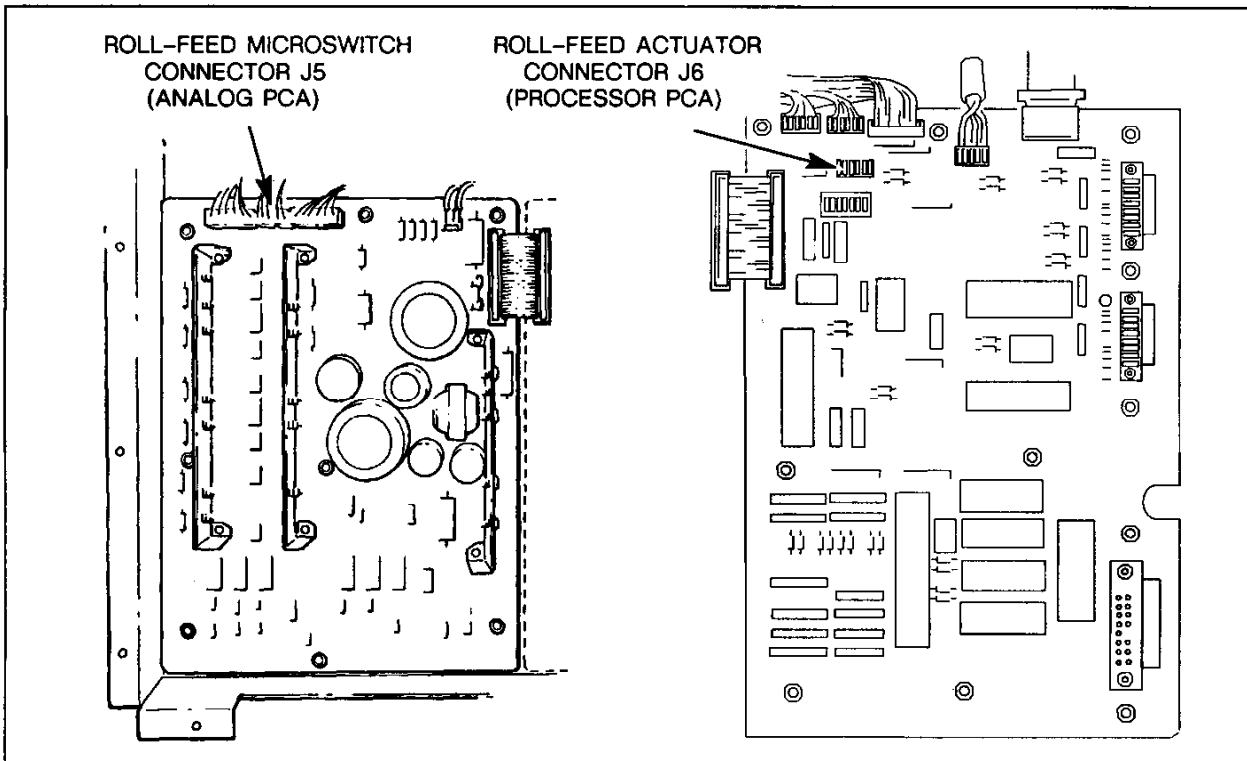

Figure 6-37. Roll-Feed Module Cable Connectors
- a. Turn the plotter line switch to OFF (O) and disconnect the ac power cord.
- c. Disconnect the roll-feed motor cable and microswitch cable connectors. See Figure 6-37.